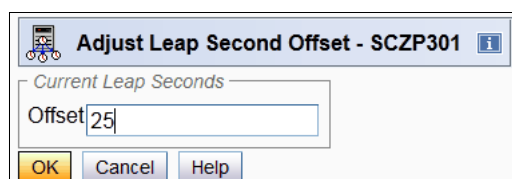

Figure 6-41 Initialize time - Adjust leap Second Offset
2. To account for leap second corrections, the total accumulated number of leap seconds since January 1972 must be entered when setting the time. Most installations have little awareness of leap seconds and on-going leap second adjustments. However, an offset value must be specified to complete the task (Figure 6-41).